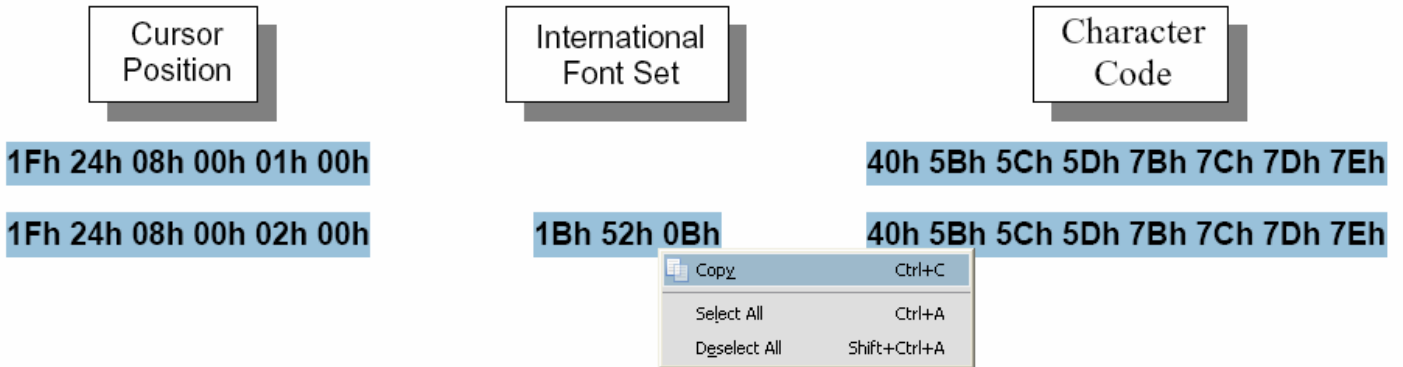
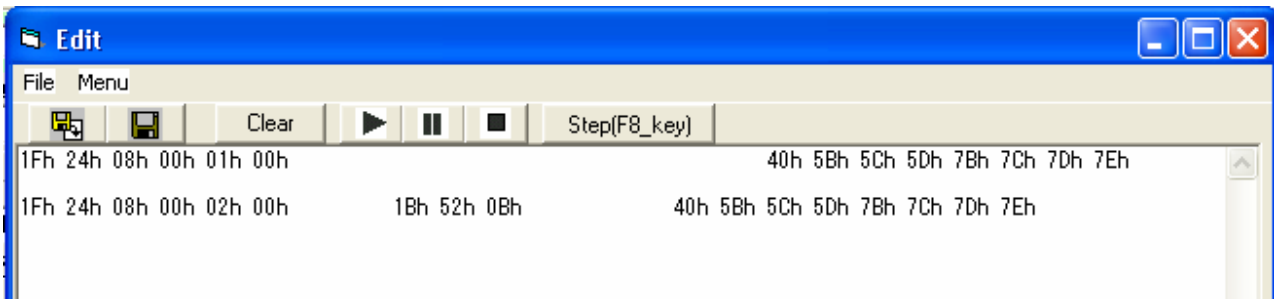
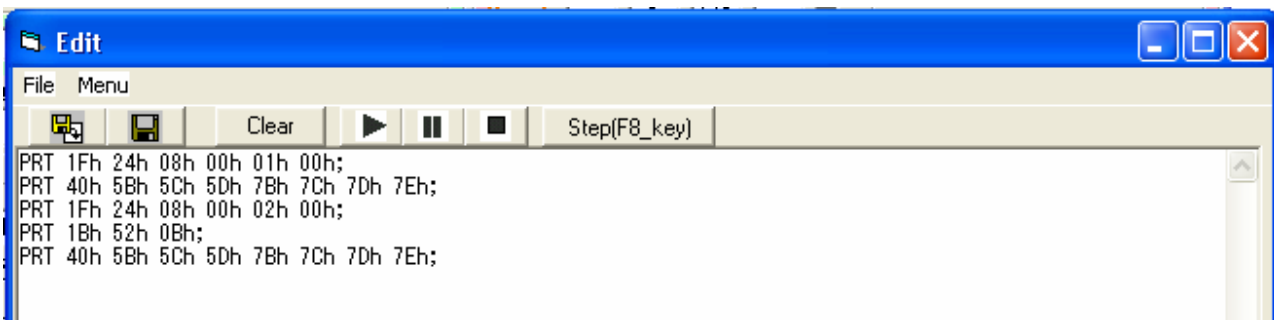

Fig. 2-19
Fig. 2-20
Fig. 2-21
In section 3, some sample command sets are provided. In order to copy and execute the sample codes, please refer to Fig. 2-19, Fig. 2-20, Fig. 2-21 and the following instructions:
1. Copy a hex-code sample command set (Fig. 2-19).
3. Paste the sample command set into the window (Fig. 2-20).
4. Add “PRT” and ‘;’ to each command (Fig. 2-21).
5. Click  button to execute all the commands at once (Fig. 2-21).
6. Click  button to execute each command step by step (Fig. 2-21).